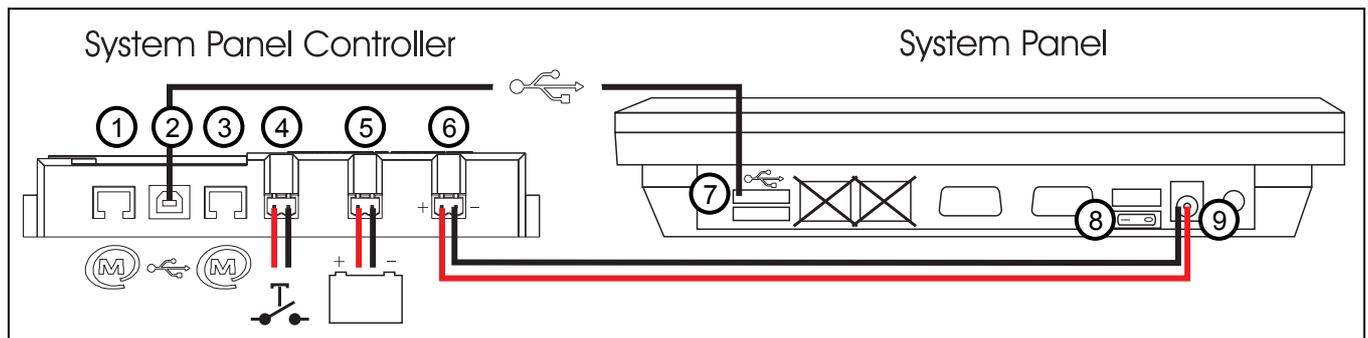

Figure 8: Connections
See figure 8. Connection of the MasterView System to MasterBus occurs via the System Panel Controller (SPC). This controller (included) contains a MasterBus USB Interface and a MasterBus controlled power supply of the MasterView System. A pulse switch (not included) attached to connector (4) switches On the MasterView System, see also section 5.3.
- Switching On by means of a pulse switch attached to the System Panel Controller (figure 8, point 4).
- Switching Off by means of a pulse switch attached to the System Panel Controller (figure 8, point 4).